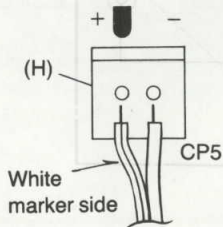

Fig. 10
- * 3 Push the top of the connector down when connecting or disconnecting the jumper. After connecting the jumper, be sure to raise the connector top and make sure the jumper is firmly secured. Make sure polarity is properly aligned when installing the jumpers. (Refer to Fig. 10)